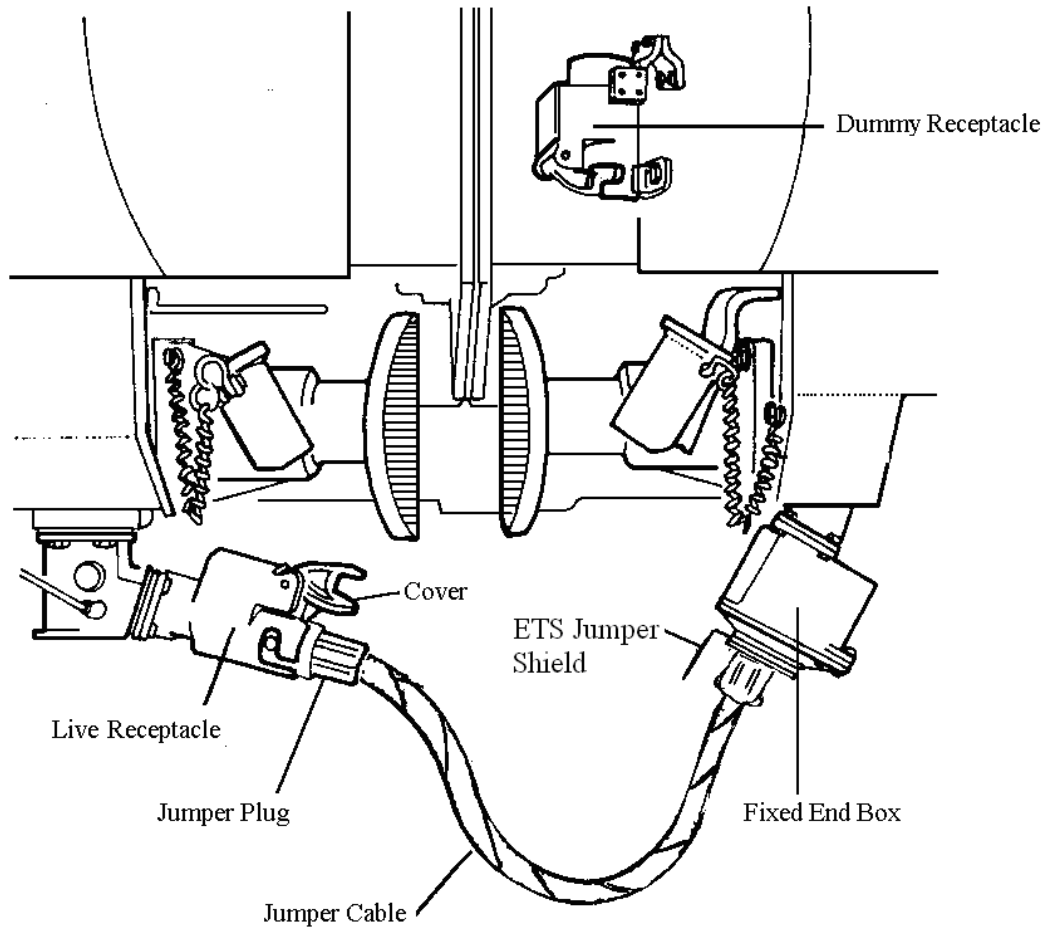

Figure 1: ETS Jumper Equipment showing Location of Jumper Shield
4. Fit the ETS jumper shield (see Figure 1).